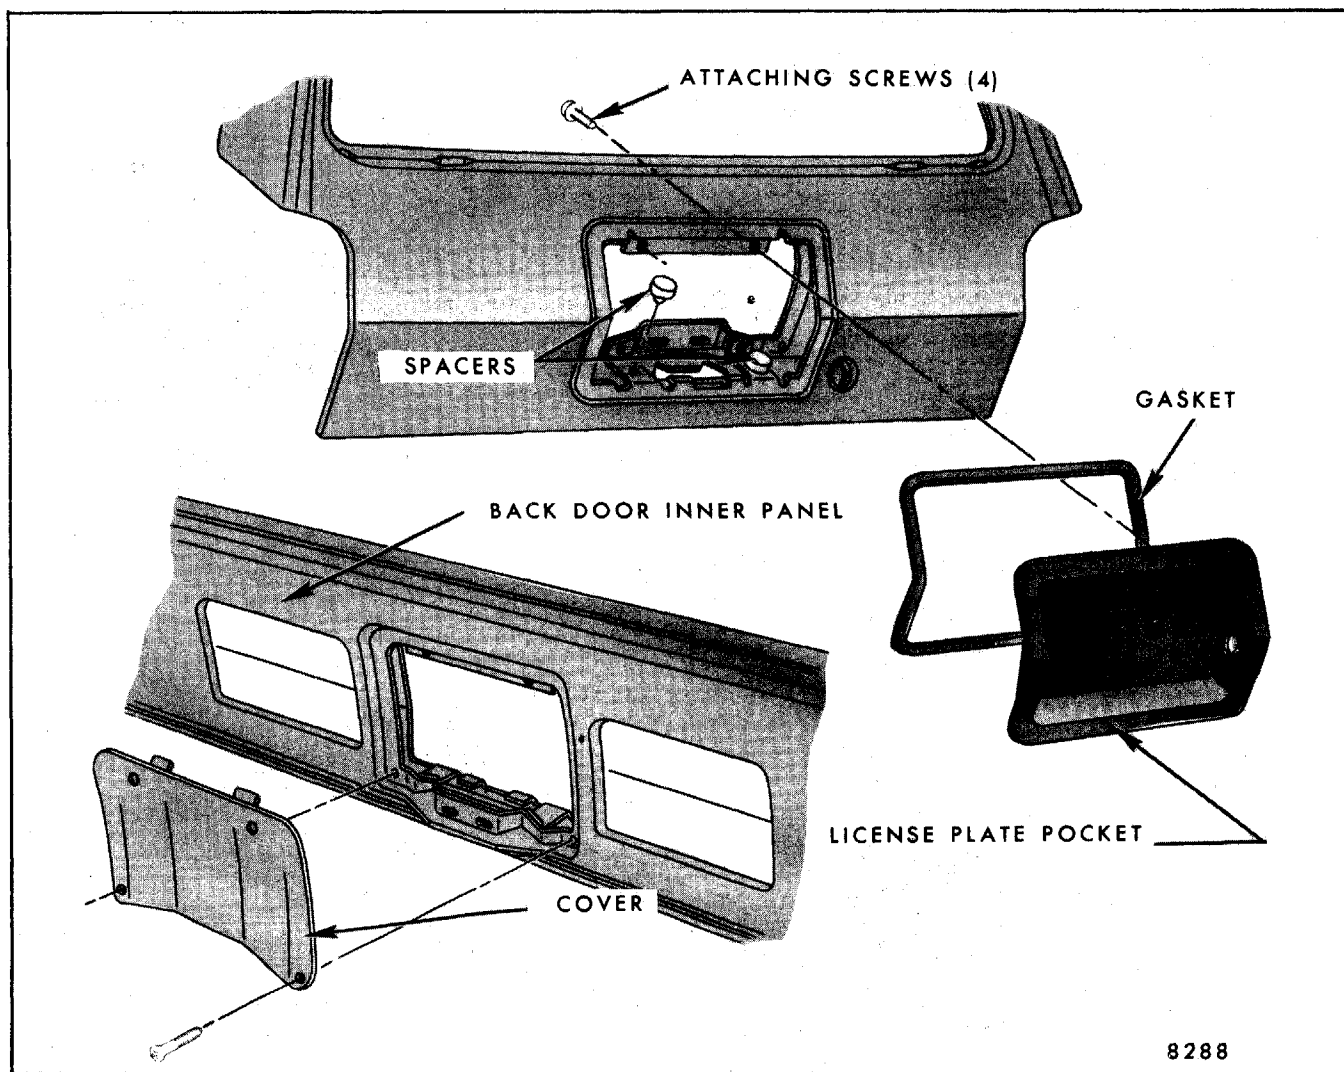

Fig. 7-90-License Plate Pocket and Inner Cover - H-15 Styles
1. Open back door and disengage license plate inner panel access hole cover (Fig. 7-90).